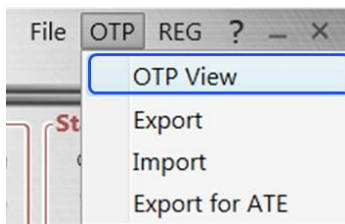

Figure 7: “OTP View” in the Drop-Down Menu
2. Click “OTP” in the toolbar, then select “OTP View” from the drop-down menu (see Figure 7).